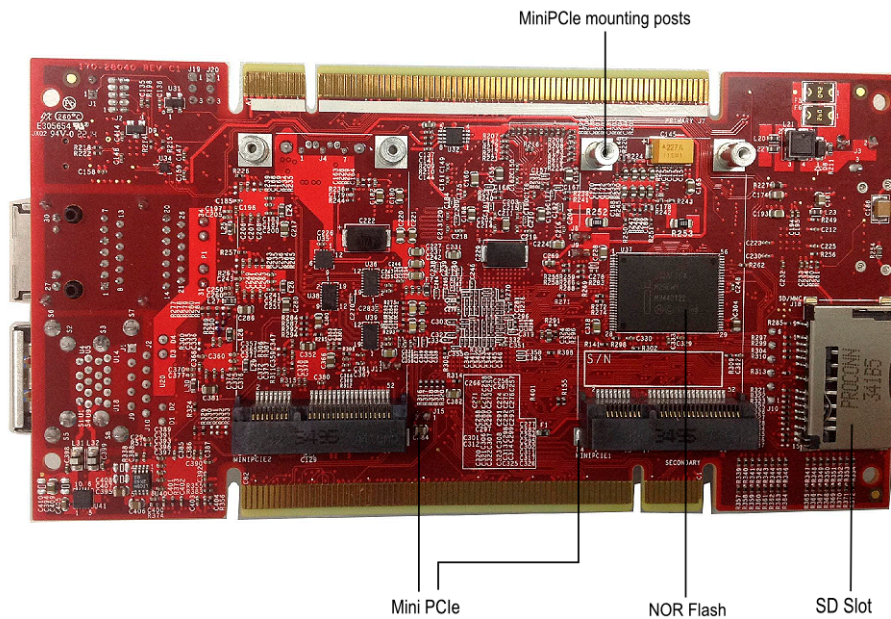

Figure 2. Secondary side main features
The TWR-LS1021A board is powered through a barrel connector. This barrel should be supplied by a 5V @5A supply. See Figure 2.
2. Check for the completion of the reset sequence indicated by the LEDs (see Figure 2 for locations). Table 4-4 lists a full description of the LED operation.